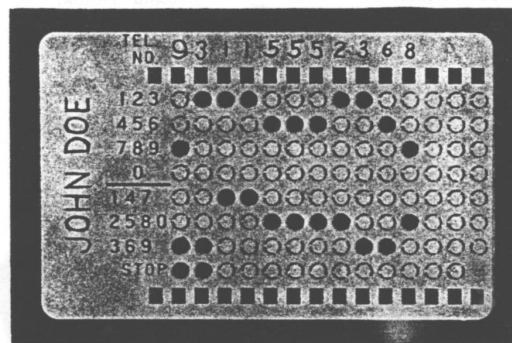

Fig. 6 — Card Coded for Access Code (9) Stop, Area Code (311) and 7-Digit Telephone Number
(7) To prepare a card for dialing an access code, punch out the appropriate digit in column 1 (Fig. 6). If a second dial tone is required, punch out STOP in column 2.
(8) For DDD calling, punch out the access code, if required, area code, and the complete telephone number.
(9) Check card before using. There should be two punched holes in each column plus a STOP (when required). Holes should be punched out completely and neatly.